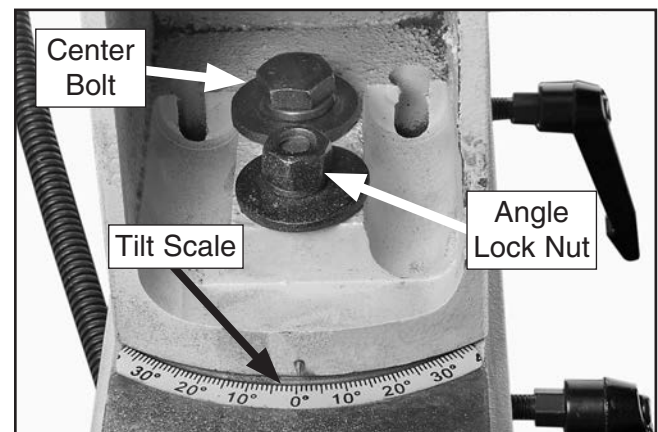

Figure 104. Headstock tilt controls.
2. Support headstock with one hand, then loosen headstock center bolt and angle lock nut (see **Figure 104**).